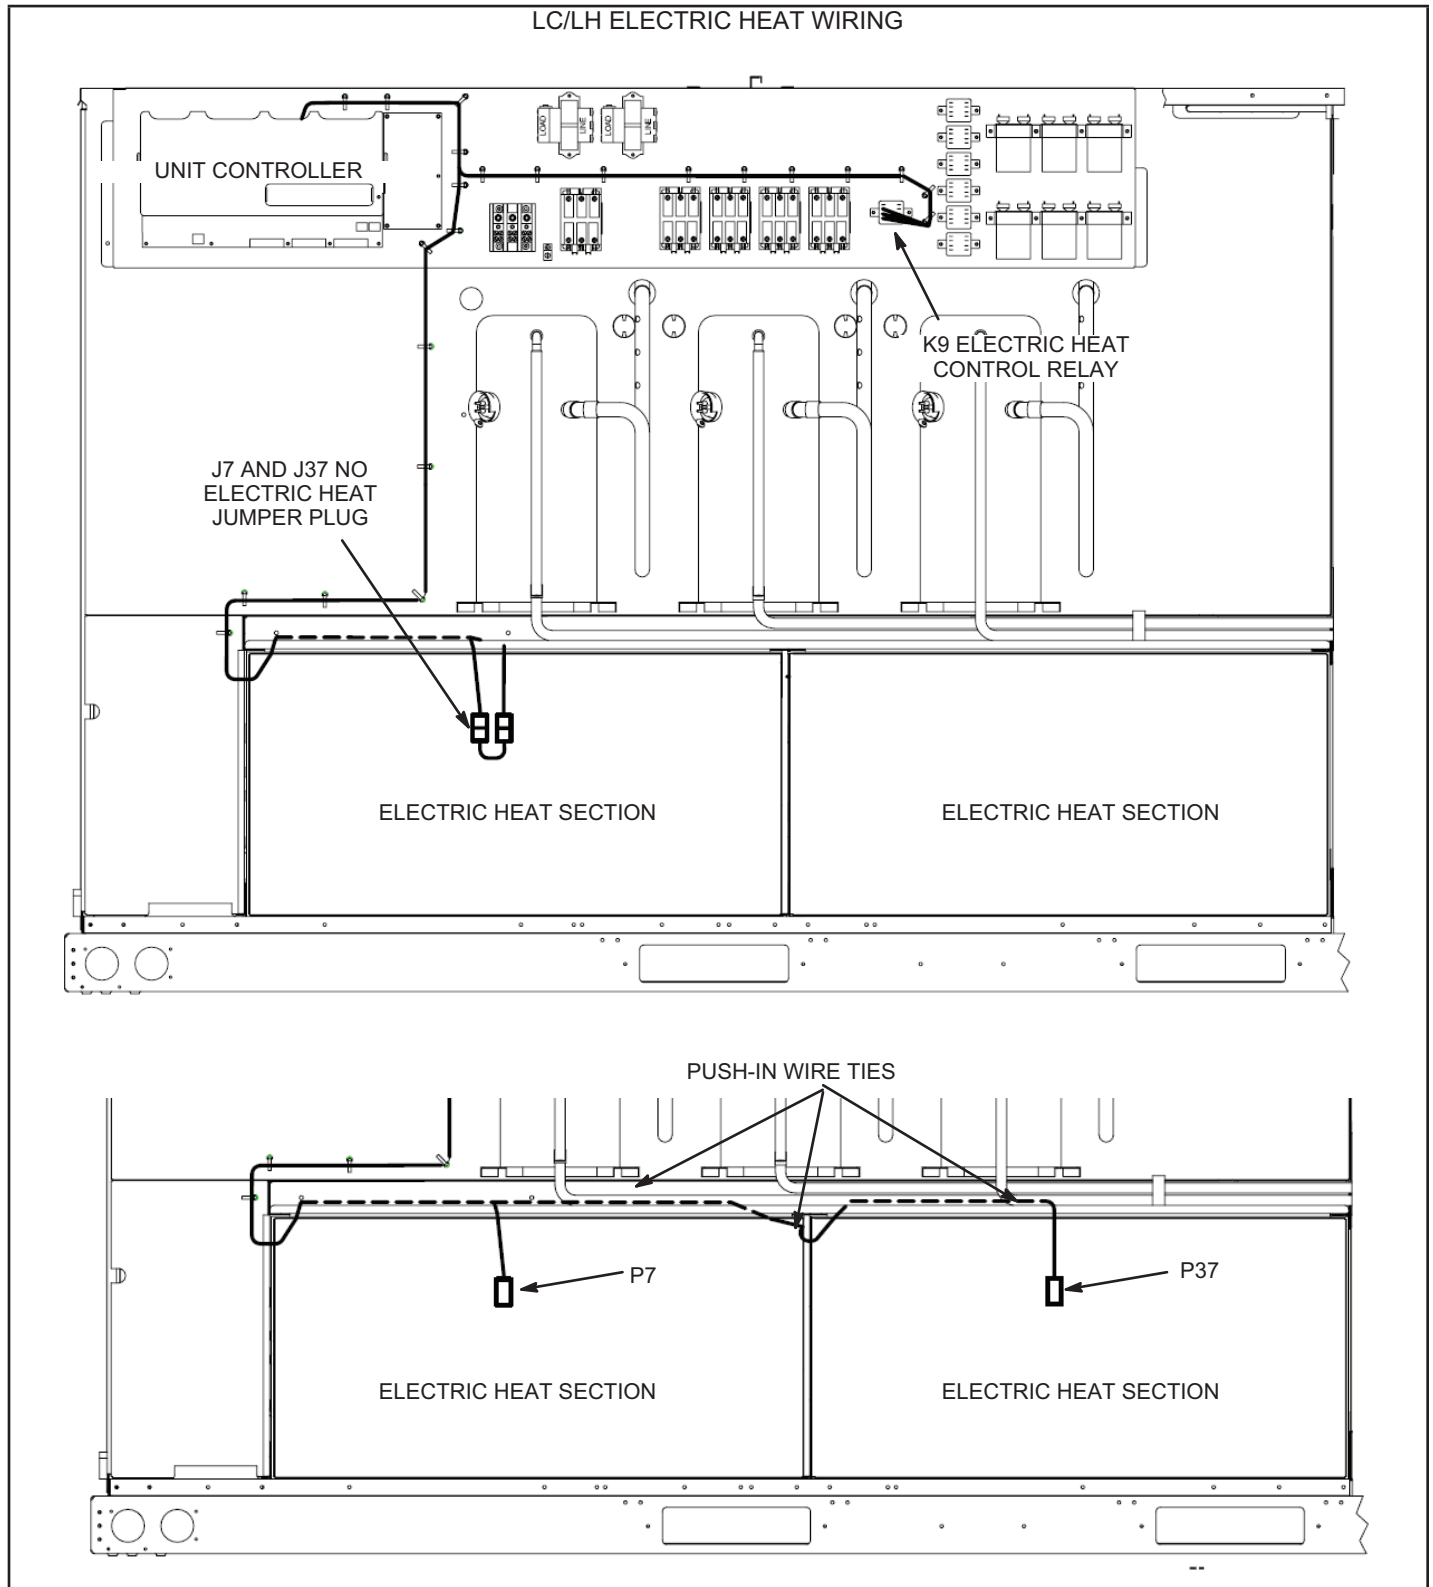
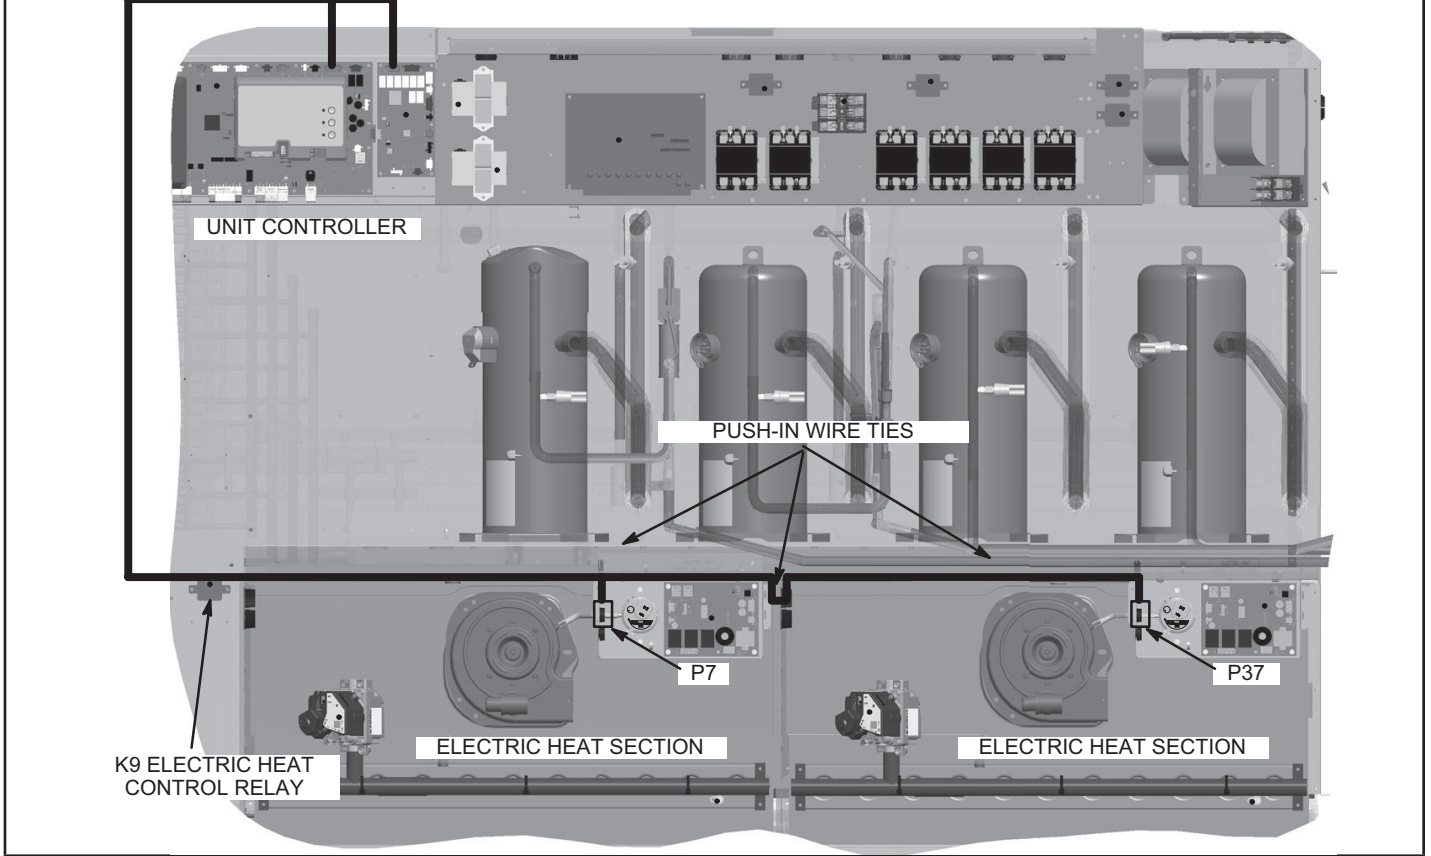

FIGURE 3
FIGURE 4
Refer to FIGURE 3 or FIGURE 4.
- 1 - Locate and disconnect J7 and J37 jumper plug from harness. See FIGURE 3.
- 3 - Route P37 to the right heat section as shown in FIGURE 3 or FIGURE 4.
- 3 - Route the other side of the electric heat power wiring through the bottom of the disconnect box and the side of the electric heat compartment. Connect power wiring to electric heat fuse block F3 or electric heat terminal block TB3. See FIGURE 4.